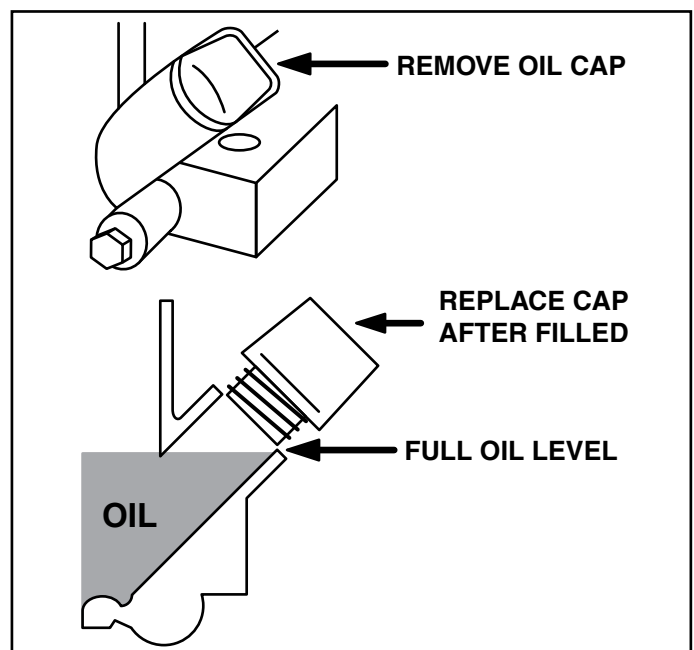

FIGURE 25
- Check **oil level** before each use. Maintain engine oil at level shown in figure 25 below.